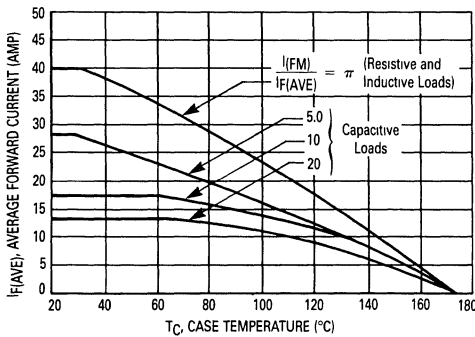
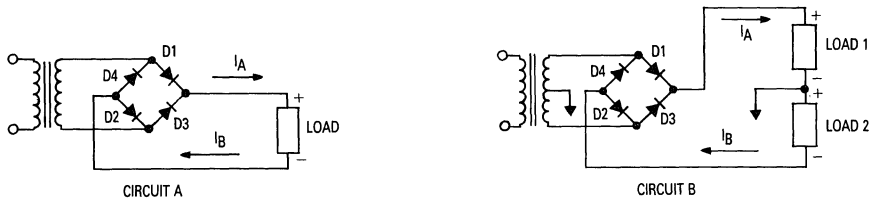

Figure 4. Current Derating
Figure 11. Basic Circuit Uses for Bridge Rectifiers
Bridge rectifiers are used in two basic configurations as shown by circuits A and B of Figure 11. The current derating data of Figure 4 applies to the standard bridge circuit (A) where  $I_A = I_B$ . For circuit B where  $I_A = I_B$ , derating information can be calculated as follows: